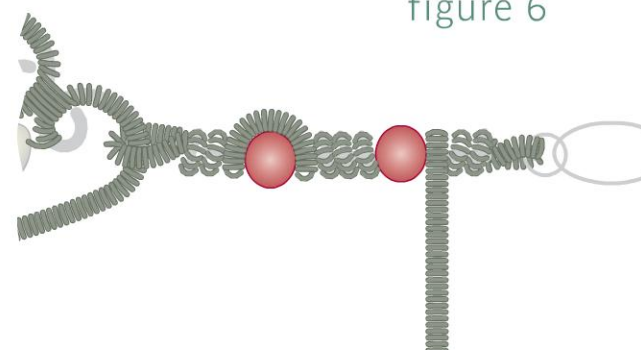

figure 7
- 1 8** Form a wrapped loop that attaches to one end of a chain segment (Figure 7).